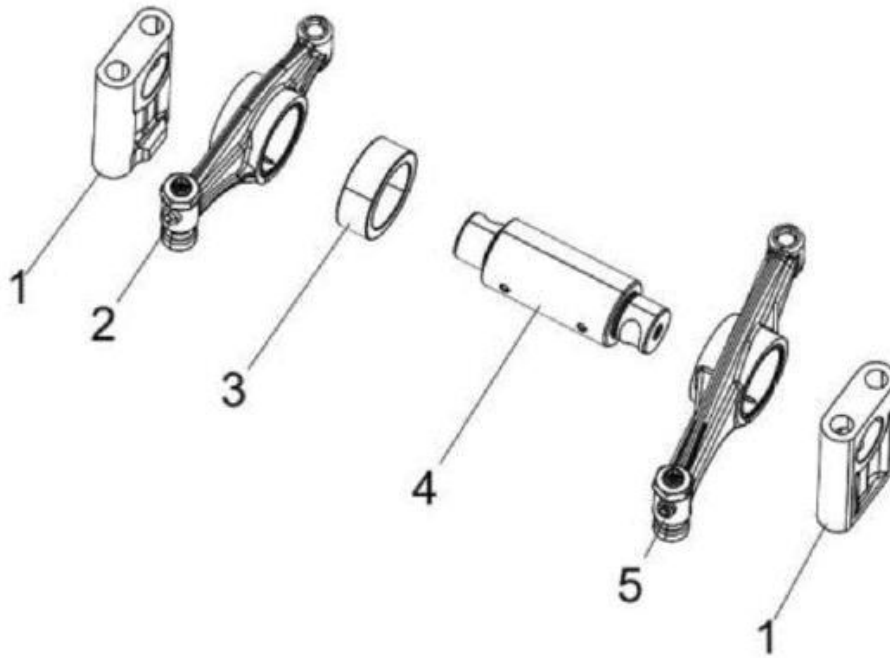

Figure 42. Rocker Arm Assembly
2. Remove the rocker arm support (Figure 42, Item 1).
3. Slide the exhaust rocker arm assembly (Figure 42, Item 2) out of the rocker arm shaft assembly (Figure 42, Item 4), rocker arm shaft sleeve (Figure 42, Item 3), and intake rocker arms assembly (Figure 42, Item 5).